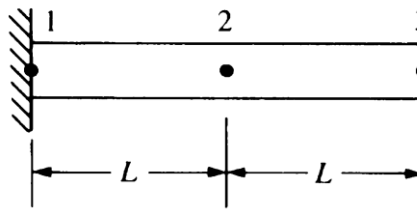

Figure 5
4. a) Determine the Eigen values and Eigen vectors of the bar shown in figure 5, Take $E=200 \text{ GPa}$, $\rho = 2800 \text{ kg/m}^3$, $A=0.258 \text{ m}^2$, and $L=0.4 \text{ m}$. (15M)